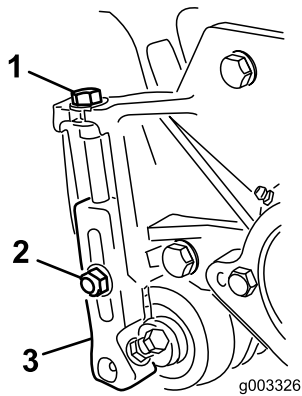

Figure 16
- 1. Loosen locknuts securing height-of-cut brackets to cutting unit side plates (Figure 16).